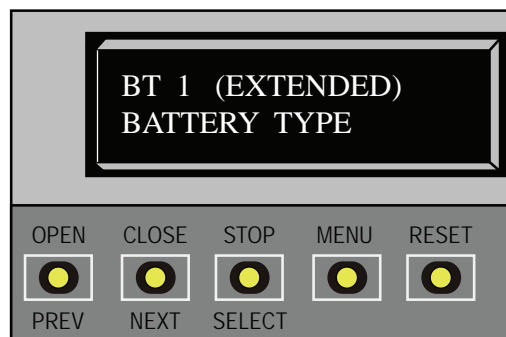

Figure 29. BT1 (EXTENDED) Battery Type
9. Change the Battery Setting (BT) in the Installer Menu to a number 1 (Extended). Follow the steps and see Figure 26–Figure 29: